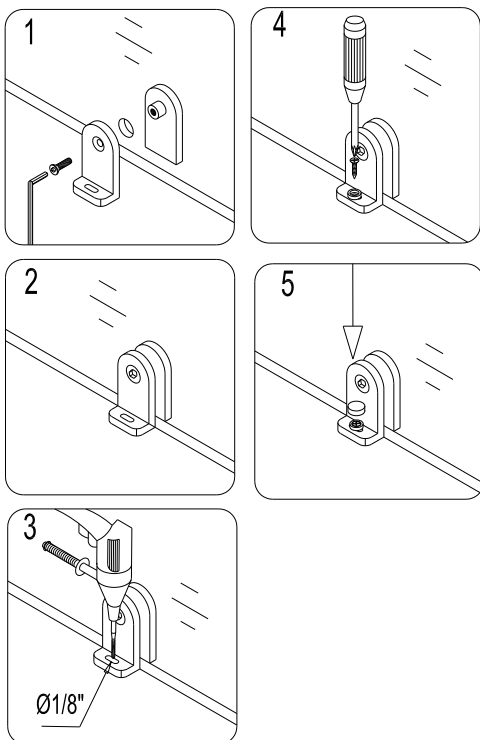
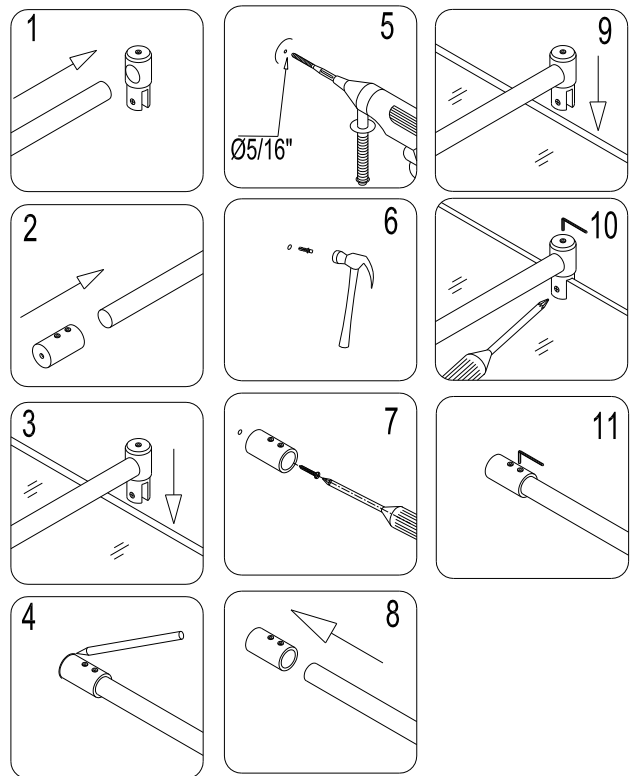

Fig. 13
Fig. 14
13. Attach the **Bottom bracket (15)** on the stationary glass and drill through the slotted hole of the bracket. Screw the bracket to the threshold with the **Round head screw ST4.2x25 (25)** and cover it with the **Decorative cover (21)**. See fig. 13 for details.
14. Find the **Support bar (08)** and attach the **Support bar wall bracket (12)** and **Support bar glass bracket (13)** to the support bar. Loosen the glass holding set-screw on the **Glass**
bracket and place the bracket on the **Return glass** at a proper position. Adjust the position of the wall bracket on the wall to ensure that the bar is leveled and parallel to the **Glass door**. When the bar is aligned in place, outline the position for the **Wall bracket**. Remove the **Wall bracket**, mark the screw hole and drill it, insert the **Wall anchor (19)**. Attach the **Wall bracket** to the wall with the **Screw ST4.2×30 (26)**. Insert the end of the support bar into the **Wall bracket** and attach the other end to the **Glass bracket**. Tighten up the set-screw on the glass bracket. (**Do not forget to put the plastic gasket between the glass and metal.**) Gently push the return glass from outside and check if the door is closing tightly and then tighten up the holding set-screws on the **Wall bracket**. See fig. 14 for details.